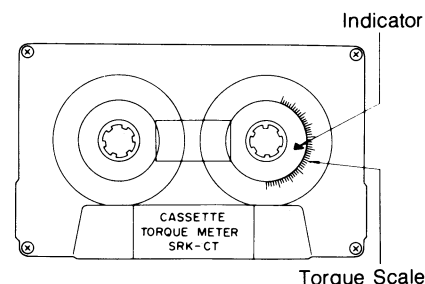

FIG. 14
4. Read "►" mark of indicator on take-up side, as shown in Fig. 14.